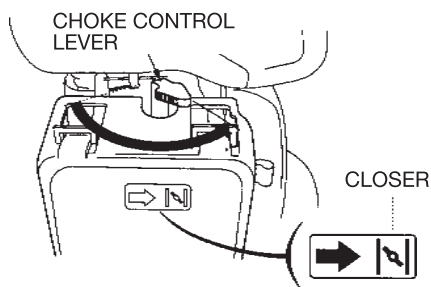

Fig. 5
2. Close the choke (as shown on the Fig. 5)